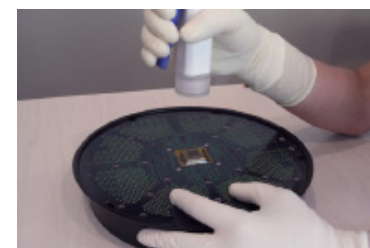

Figure 4
- If loose particles are found, hold an acceptable air nozzle vertical to the probe face, three inches (75 mm) from the core (see Figure 4). Activate the air stream before approaching the core with the air nozzle, as the nozzle will tend to move forward even at low pressure. Continue to Step 2: Preparing the Cleaning Brush.
1. Hold an acceptable air nozzle vertical to the probe face, three inches (75 mm) from the core (see Figure 4). Activate the air stream before approaching the core with the air nozzle, as the nozzle will tend to move forward even at low pressure.